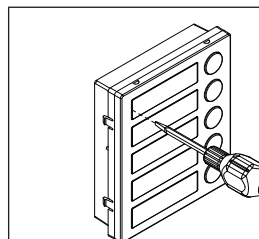

Fig. 9
- Insert the screwdriver (flat side) into the card-holder hole as shown in Fig. 9;